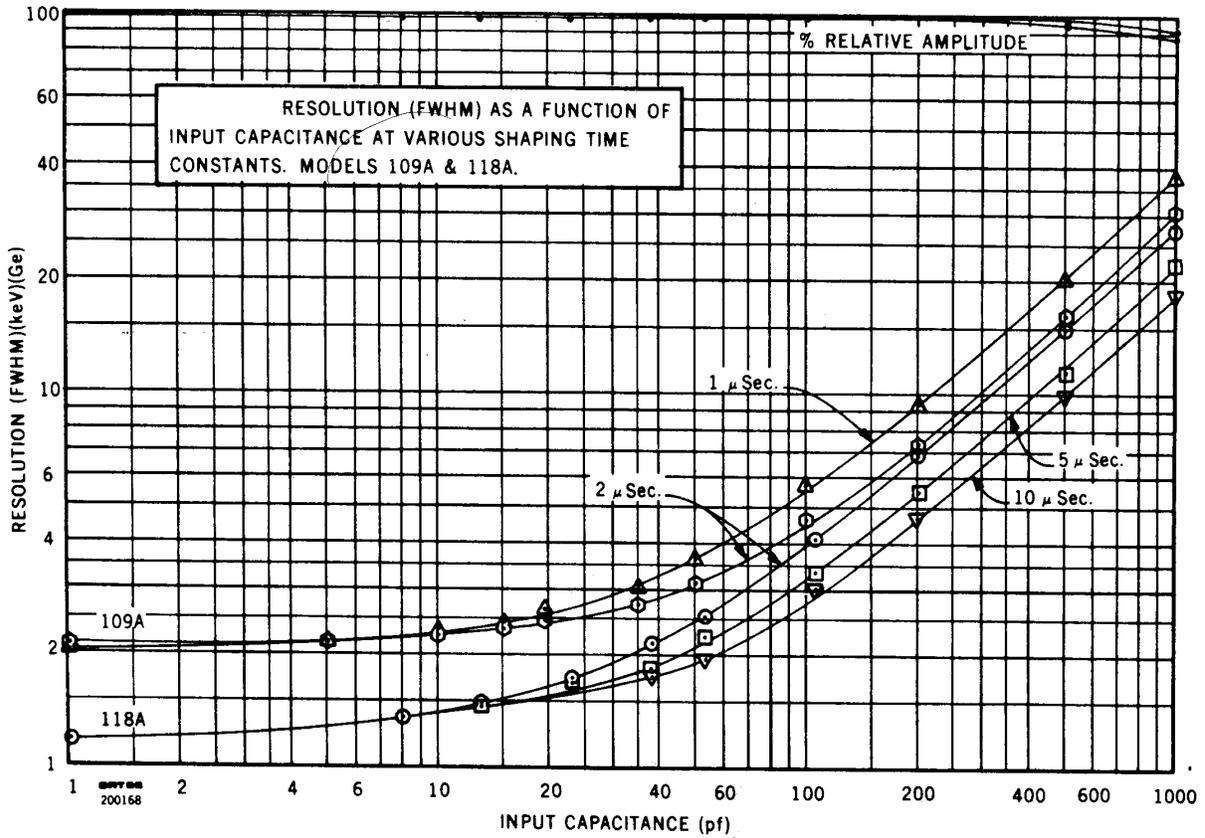

Fig. 4.2. Resolution Spread vs. External Input Capacity.
3. The full width at half maximum (FWHM) resolution spread due to the amplifier noise is then  $N(\text{FWHM}) = 2.66 E_{rms} E_{dial}/E_o$ , where  $E_{dial}$  is the pulser dial reading in MeV, and the factor 2.66 is the correction factor for rms to FWHM (2.35) and noise to rms meter correction (1.13) for average indicating voltmeters such as the Hewlett-Packard 400D. The resolution spread will depend upon the total input capacity, since the capacitance degrades the signal-to-noise ratio much faster than the noise. A typical resolution spread versus external input capacitance is shown in Fig. 4.2.